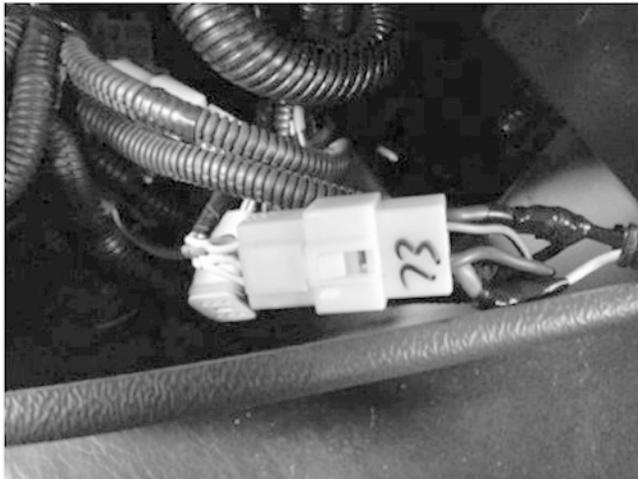

Figure 12-1
1. Locate connector number 73 (it is located in the area below the LH cup holder in the lower instrument panel skirt which at this point has not been reinstalled – the wires on the female side of the connector are blue, gray, red and purple) (see *Figure 12-1*).